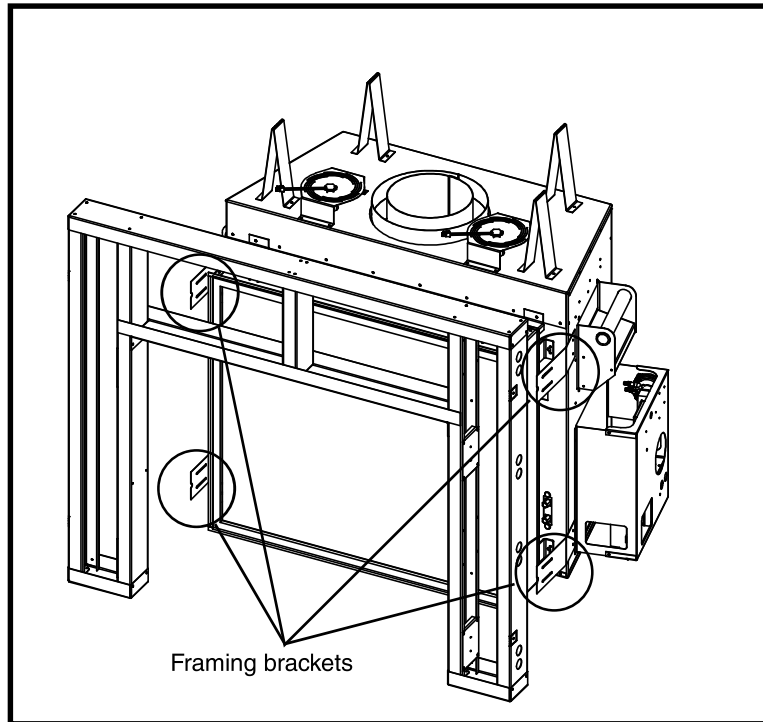
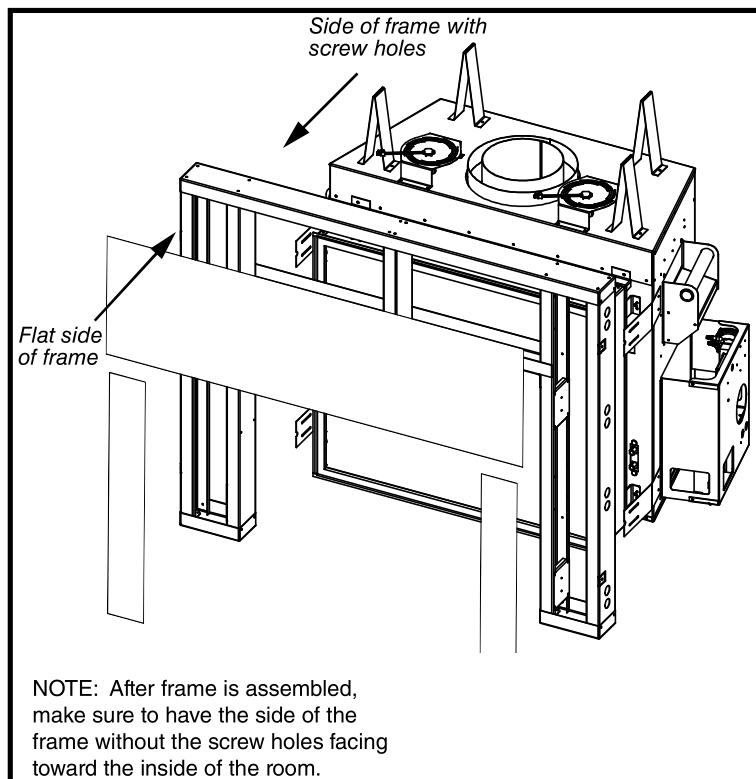

Figure 17: TC30 Framing brackets.
Figure 18: Combustible boards.
- Align and secure the framing plates (8) to the frame so that they are in line with the framing brackets on the fireplace unit (Figure 17). Align the assembled frame to the unit framing brackets (Figure 17). Attach at the fastening points through the access holes in the outer side studs (3).
- Secure the frame assembly to existing framing through the stud header (5) and the stud plates (7).
- Use drywall screws to install the non-combustible board top and sides (Figure 18).